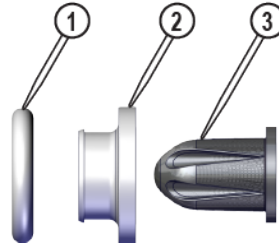

Figure 48
3. Clean the **metal screen filter** [3] using an ultrasonic cleaner (Figure 48). Replace **metal filter screen** if damaged .